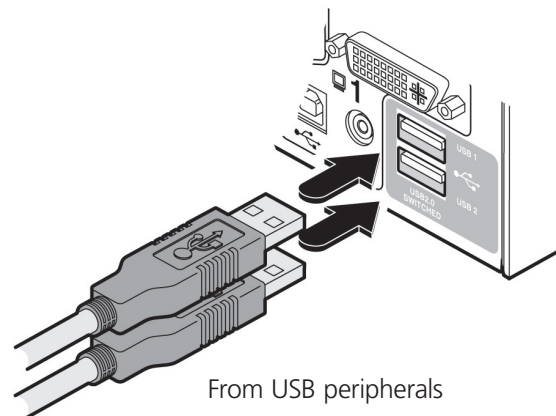

Figure 3-3. Connecting USB peripherals to the user console.
3. USB devices. Where required, attach the leads from your USB peripherals to the USB connectors labeled USB1 and USB2. See Figure 3-3.